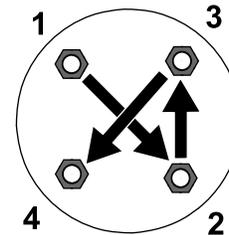

Figure 66
Torque the lug nuts at the front and rear wheels (4-wheel-drive machines only) in the pattern as shown in Figure 65 and Figure 66 to the specified torque.
- Rear wheels (4-wheel-drive machines only): refer to Figure 66